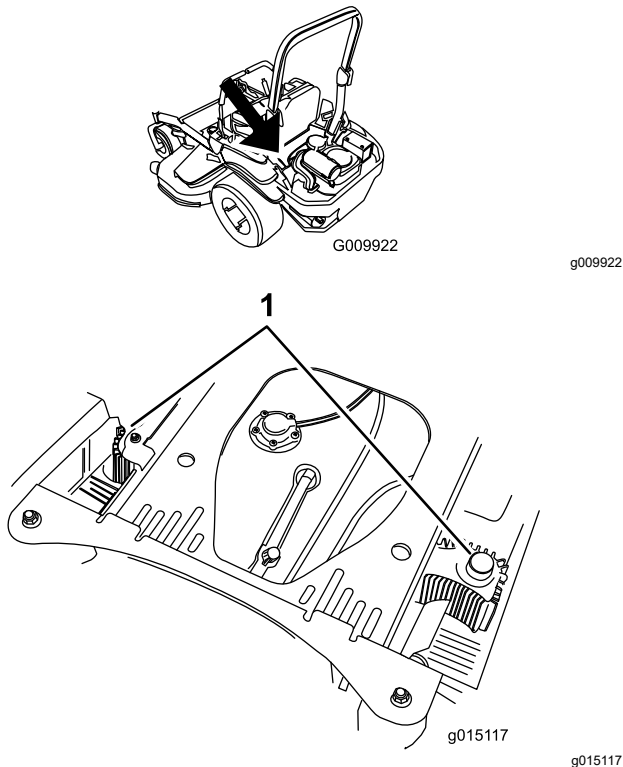

Figure 71
4. Clean the debris and grass from the hydraulic-unit shrouds (Figure 71).